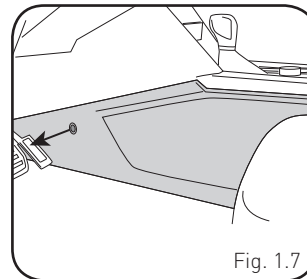

Fig. 1.7
6. Remove single (1) T25 Torx screw located on driver side center console trim. Slide the trim down to release clips. (Fig. 1.7)